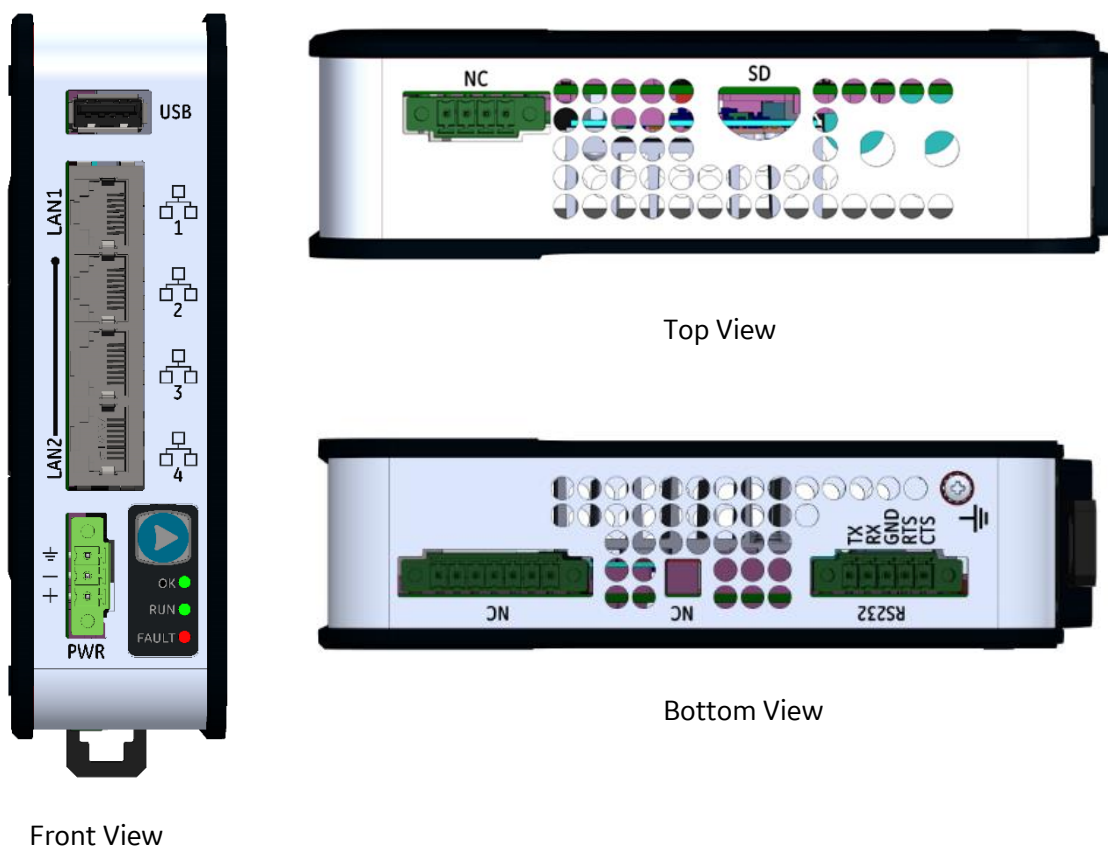

Figure 36: CPE100 Front, Top and Bottom Views and Features
The physical features of the CPE100/CPE115 are shown in the Figure 36
- Supports two independent 10/100 Ethernet LANs. LAN1 has only one port and is dedicated to high speed Ethernet and whereas LAN2 is comprised of three switched ports (labelled as 2, 3 & 4) configurable either as a second embedded Ethernet controller or an embedded PROFINET controller. All four ports are located on the front panel, as shown in Figure 36.